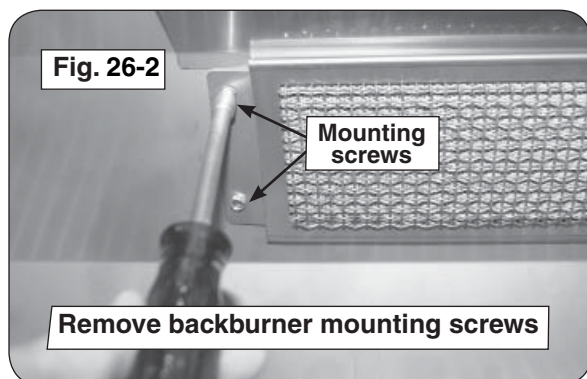

Fig. 26-2
1. Remove the backburner mounting screws ($1/4$ " hex) located at the left end of the backburner assembly (see Fig. 26-2).